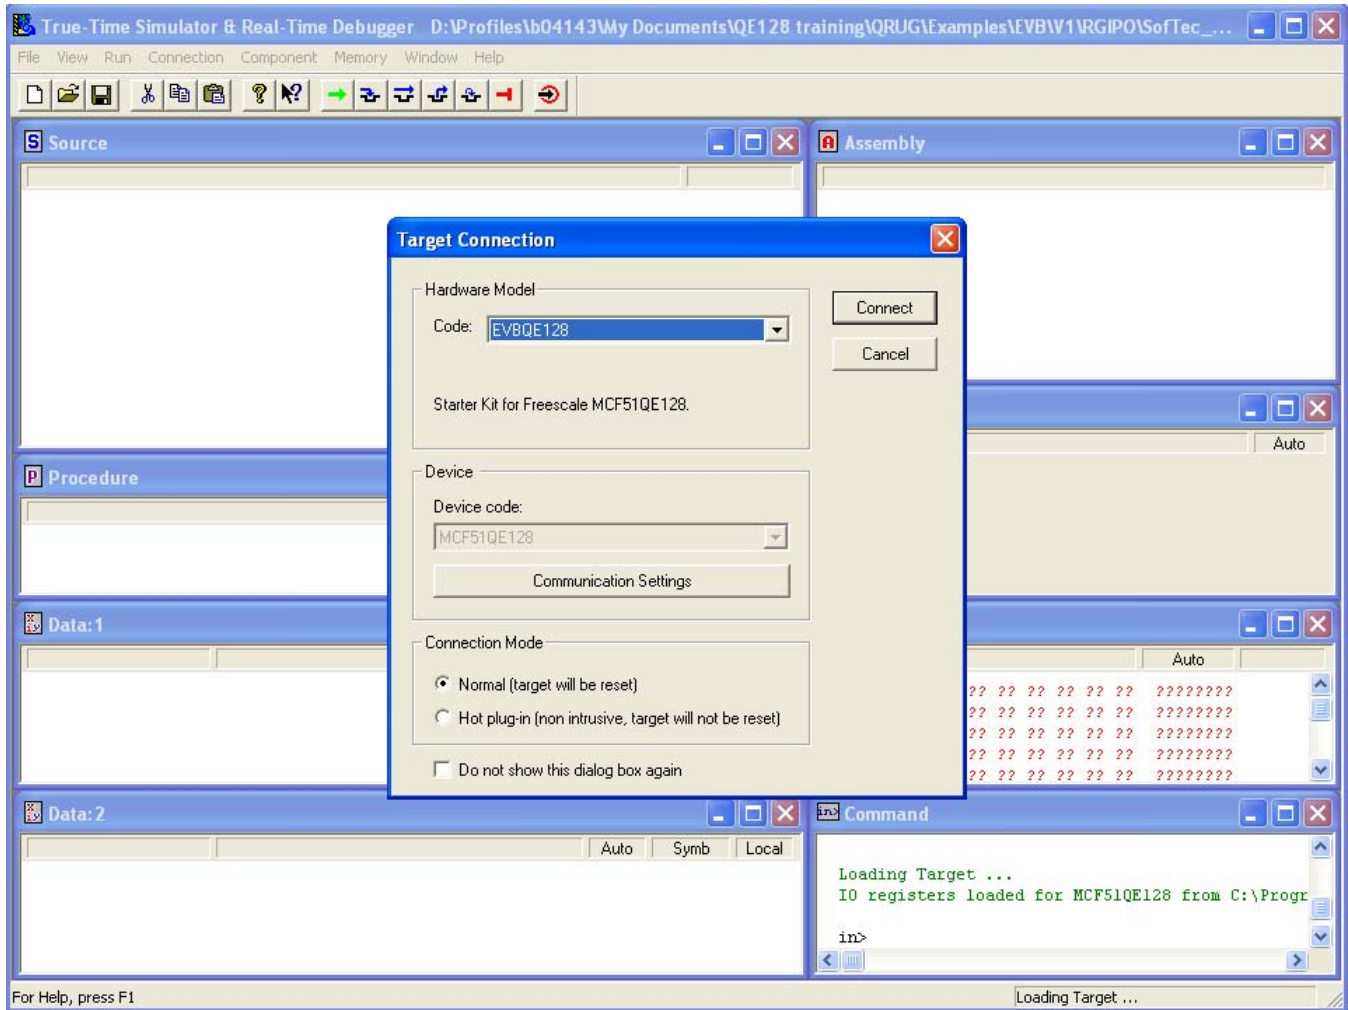

Figure 3-9. Connect Option
- After the debug command is executed a window pops up (see Figure 3-9), select the EVBQE128 hardware model and then click on the Connect option.